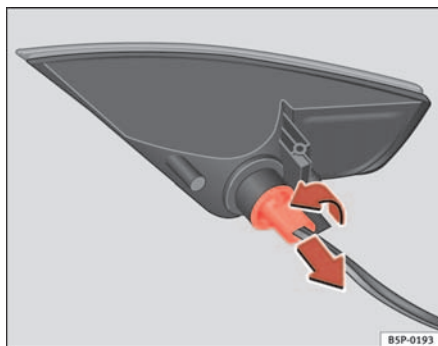

Fig. 186 Rear light after removal from bumper
- Rotate the lamp holder to the left, and remove it in the direction of the arrow ⇒ fig. 186